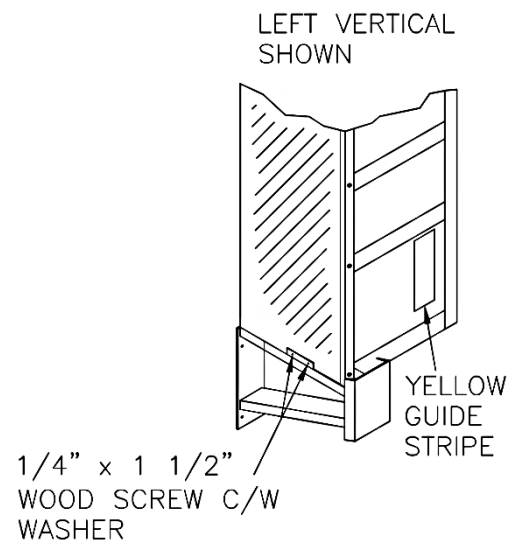

FIG. 7B
- **If using Steel Protective Guard** (Figure 7b):